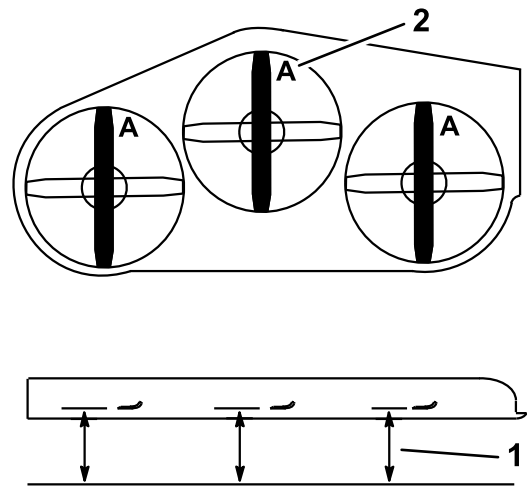

Figure 92
3. Rotate the blades until the ends face forward and backward (Figure 92). Measure from a level surface to the cutting edge, position A, of the blades (Figure 92). Note this dimension.